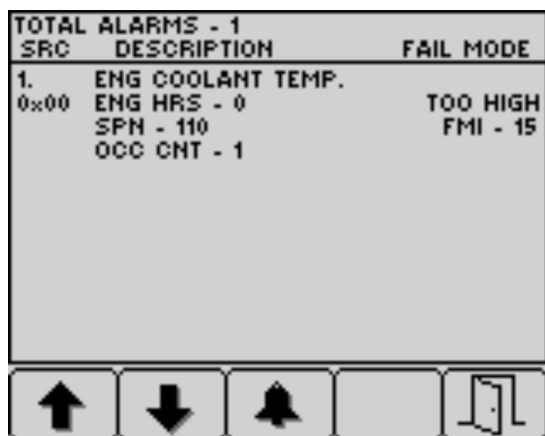

Figure 39
4. Press button 5 to exit the active fault list and return to the home screen (Figure 39).
5. Press button 5 to exit the active fault list and return to the home screen; refer to Figure 39 in Engine Advisories Messages \(page 35\).